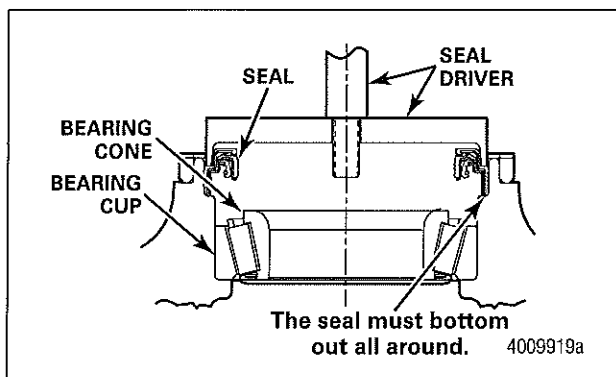

Figure 20
- C. Align the seal and tool with the hub seal bore and drive the seal until it bottoms out in the hub seal bore. Figure 20.